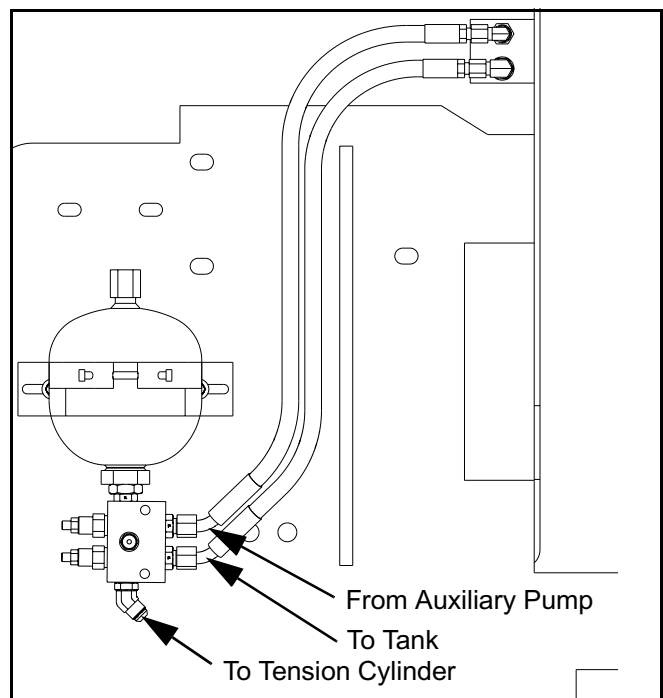

Figure 5 - 22 Track Tension Valve Hydraulic Lines
- 1) Remove and cap lines from auxiliary pump-to-tension valve and from tension valve-to-tank. (Figure 5 - 22)